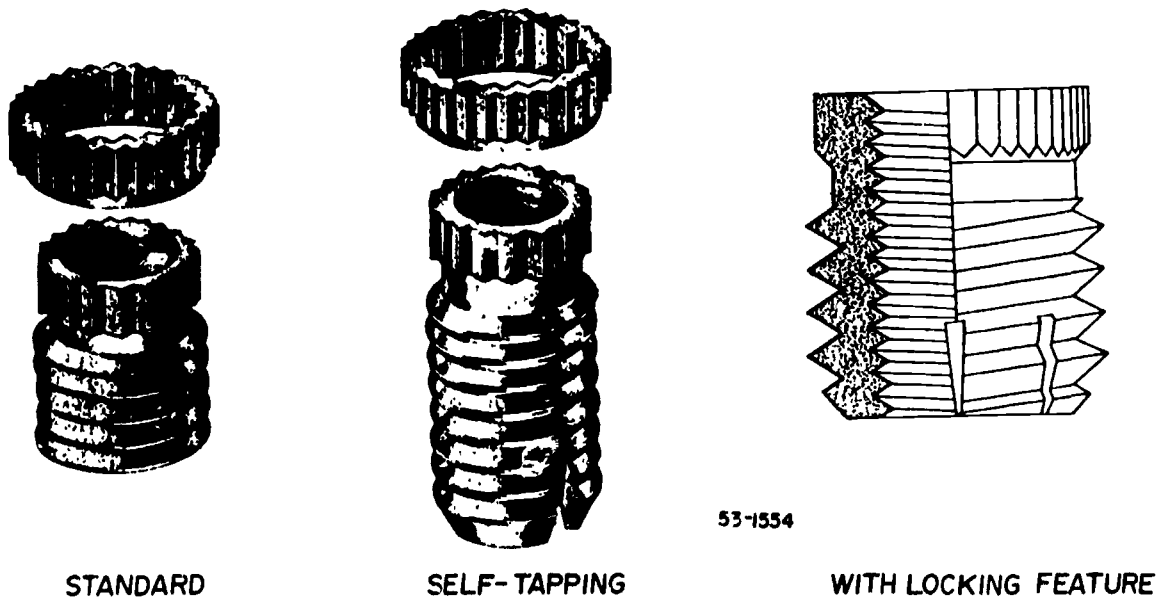

Figure 6-18. Lock-ring threaded inserts.
**Making a Screw Punch.** Figure 6-18 shows a typical screw punch. There are many ways to make one: form a lathe boring tool bit, a lathe parting tool bit, etc. However, the one pictured is especially well suited for the task since it has a solid steel handle similar to a chisel shank. This construction makes the screw punch easy to strike with a hammer and there is no danger of the tool bit shattering in your hand the way the other styles can. To make a screw punch like that shown in figure 6-16, use a 5- or 6-inch piece of hex steel (the hex shape
**Insert Types and Uses.** The two types of inserts that are commonly in use in the Air Force are solid inserts and Heli-coil inserts. Solid inserts are produced in many shapes and sizes. Figure 6-18 shows a type of solid insert that is secured from rotating by a serrated lock-ring. Solid inserts are nearly always secured by some kind of locking device. In addition, some have an internal locking device such as the crimped lower threads shown on one example in figure 6-18.